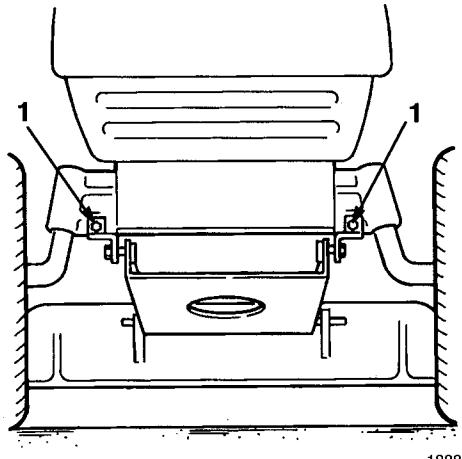

Figure 39
- Install the mower pivot mount brackets to the front axle with bolts and lock nuts (Fig. 39).